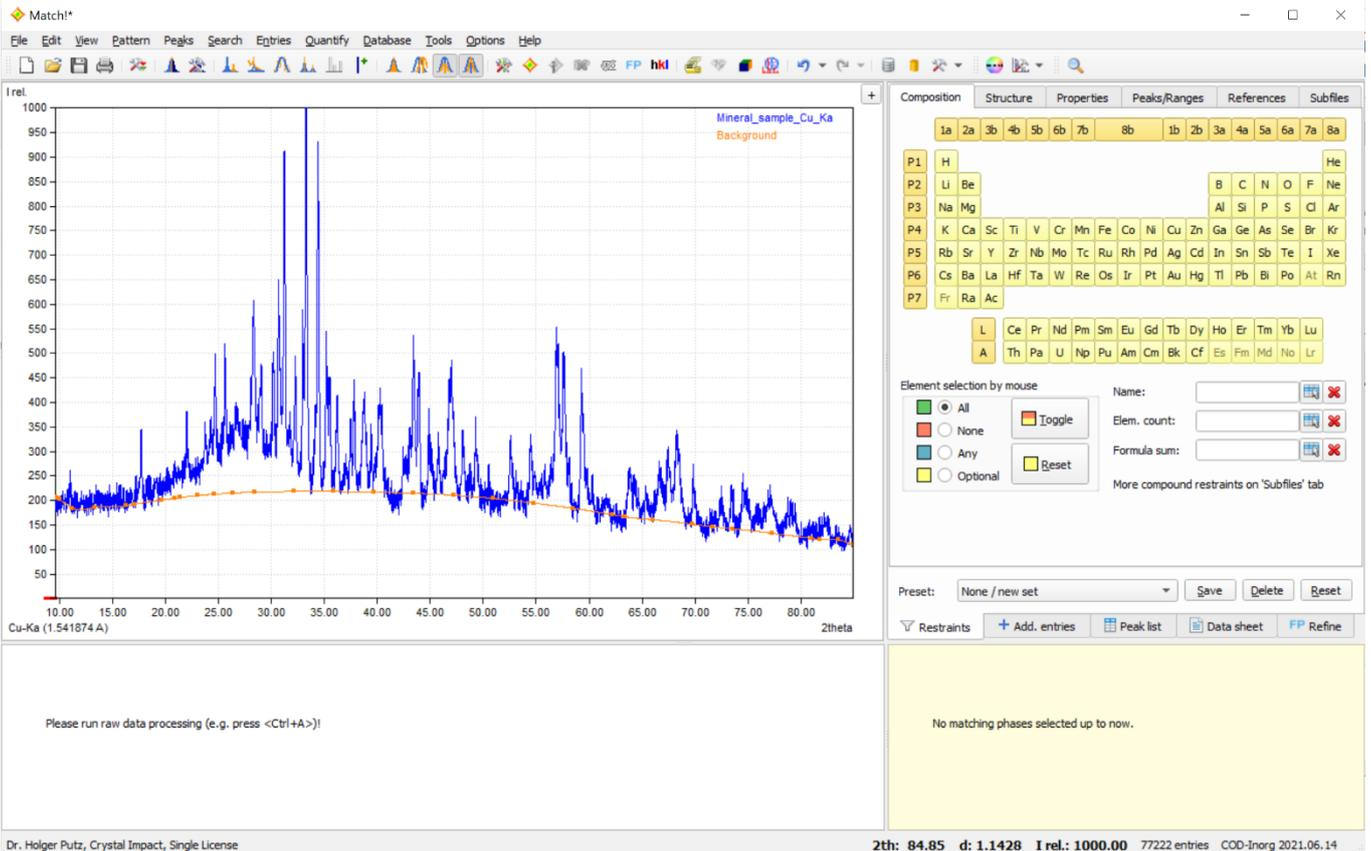

Fig. 21: Your sample’s diffraction pattern has been imported for degree-of-crystallinity analysis (DOC).
4. Define/check/modify the background so that it clearly separates the diffraction peaks from the background (Fig. 21).